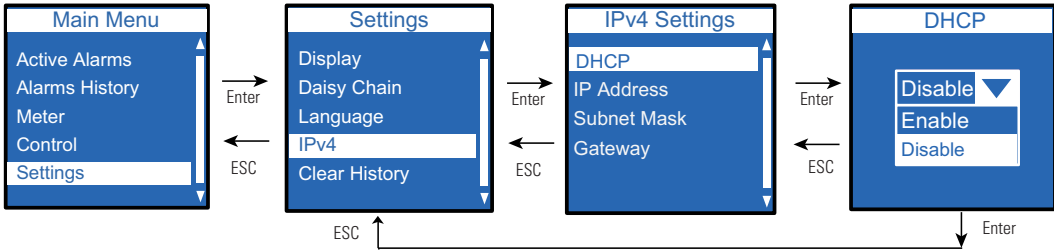

Figure 39. Disable DHCP
- 1. Disable DHCP (see Figure 39).